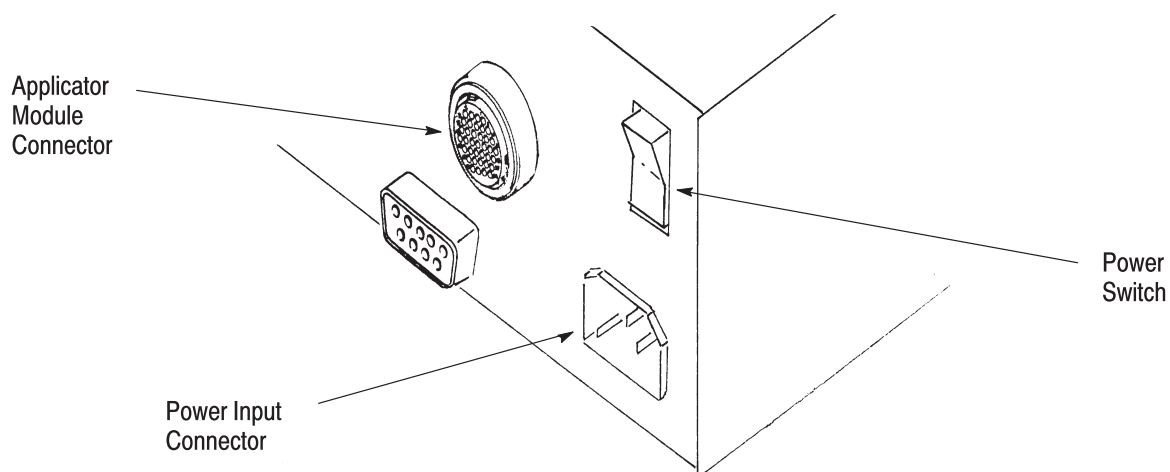

Figure 3
2.3. Interface Connection (Figure 3)